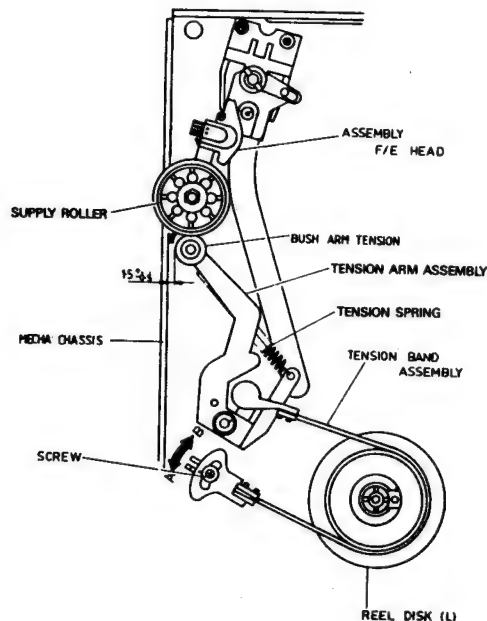

Fig.3
5. After loosening the screw, move the Fig 3 tension spring in direction "B", If the tension adjustment tape reads 45 or higher, in direction "A" when it is 39 or lower, and adjust the back tension for a nominal reading of 42 on the scale.
### 3-4. Arm Tension Position Adjustment (Fig. 3)